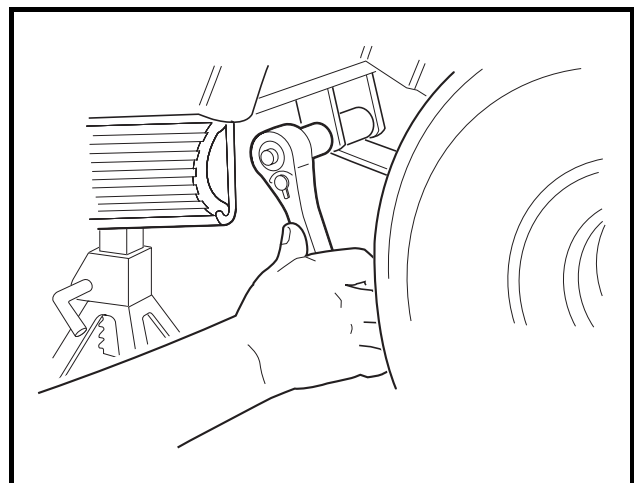

Figure 19-23 Spring Retainer Bolts
9. Remove the bolts securing the leaf springs to their front mounts (**Figure 19-23, Page 19-10**).